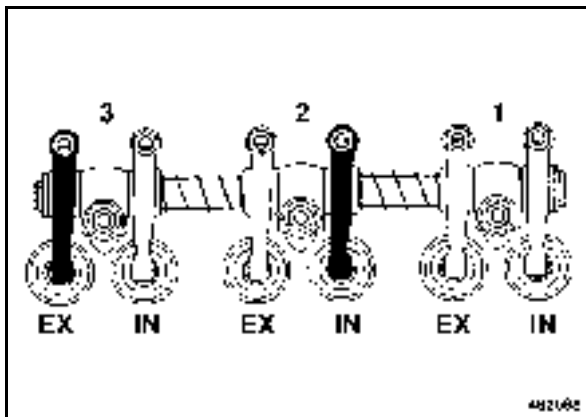

Fig. 122
- Perform the adjustment of the valve by following the adjustment diagram 1" (Fig. 122), black mark.